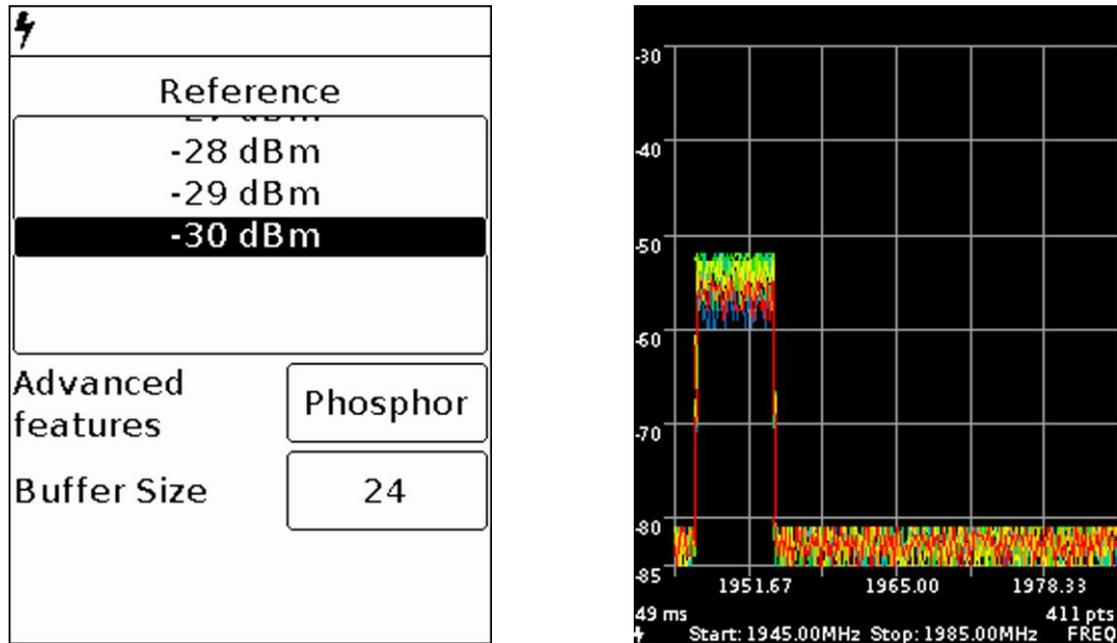

Figure 8.5.6 – Measurement in the «Digital Phosphor» mode
8.5.4.2. In the additional «Digital Phosphor» display mode, the fading spectrum graph is displayed on the device screen, as in Figure 8.5.6. Additionally, in the **Buffer Length** window, the number of previous measurements (8, 16 or 24) memorized to display the chart is set.